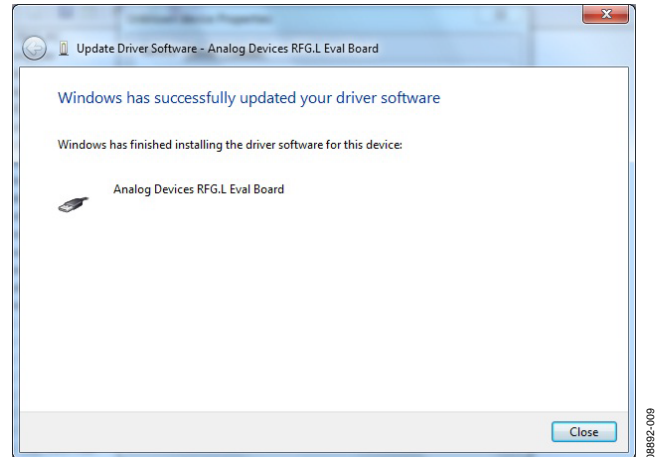

Figure 9. Successful Installation
- If the installation is successful, the message in Figure 9 appears.